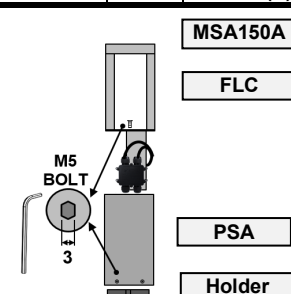

Fig.2
3. Disassemble the luminaire body (Fig.2).
7. Fix the [FLC]: Fix the [FLC] on the [PSA] by four M5 bolts. (Fig.2)